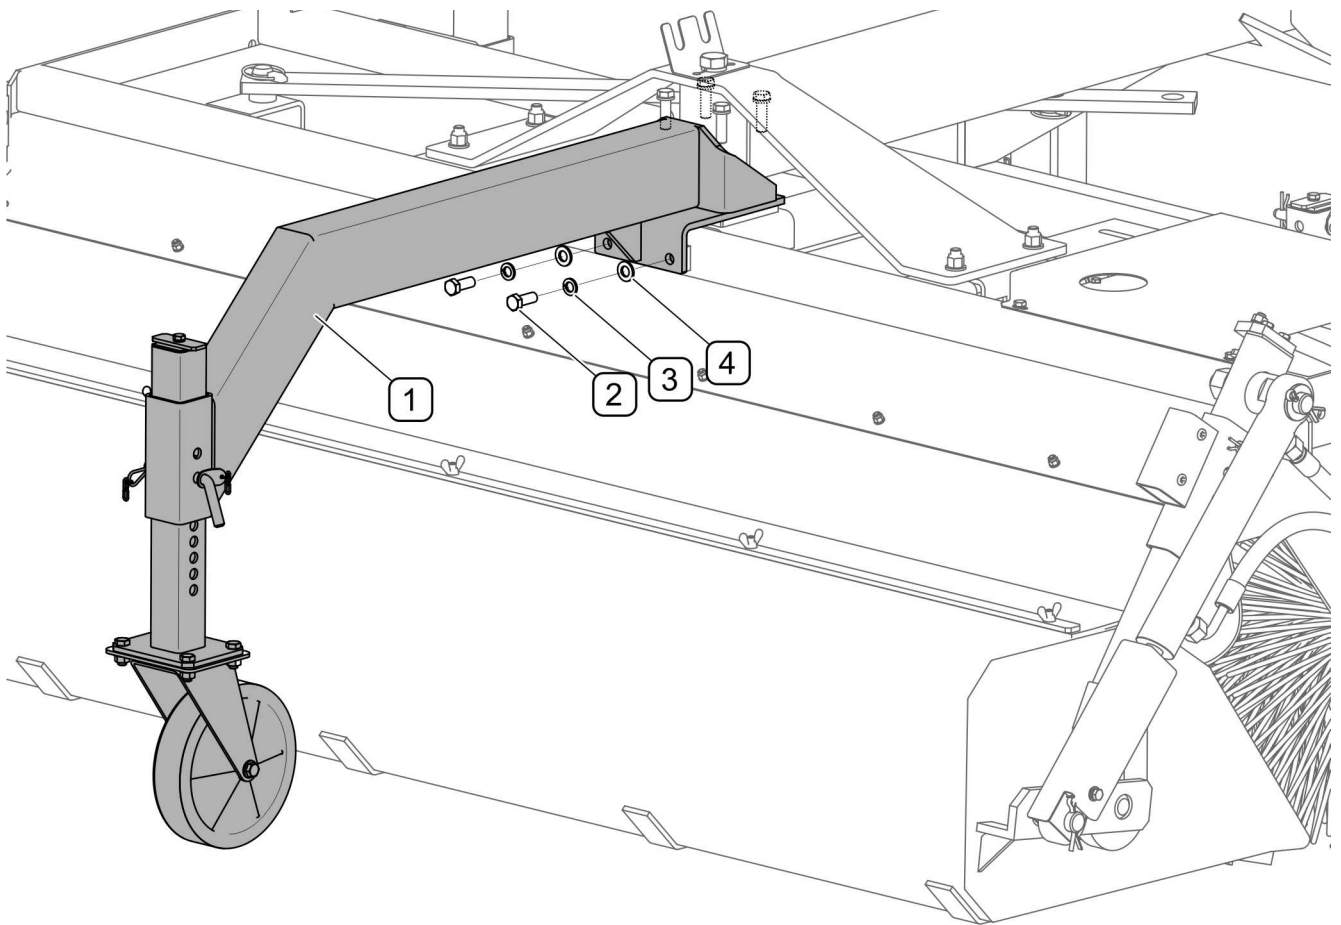

FIG. 4.10 Additional jockey wheel (optional)
(1) - boom, (2) - bolt, (3) - spring washer, (4) - washer
To improve ground surface tracking during sweeper operation in front of the carrying vehicle, attach additional jockey wheel to sweeper frame (*catalogue number 80RPN-20.00.00.00*). Boom (1) and jockey wheel (FIG. 4.10) are screwed to the top of the frame using main pivot mounting bolts and bolts (2) with washers (3) and (4).